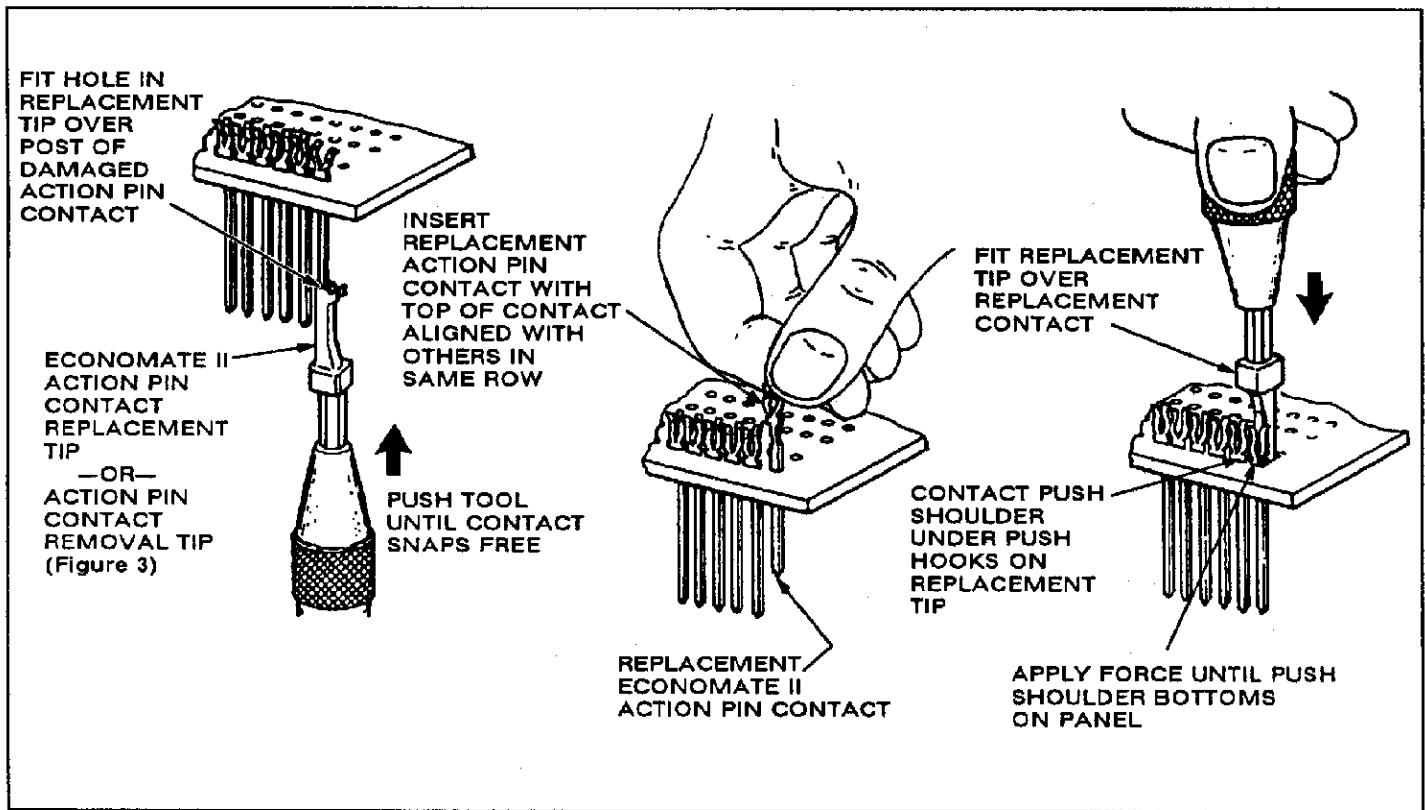

Fig. 6
5. ECONOMATE II CONTACT REPLACEMENT (Figure 6)